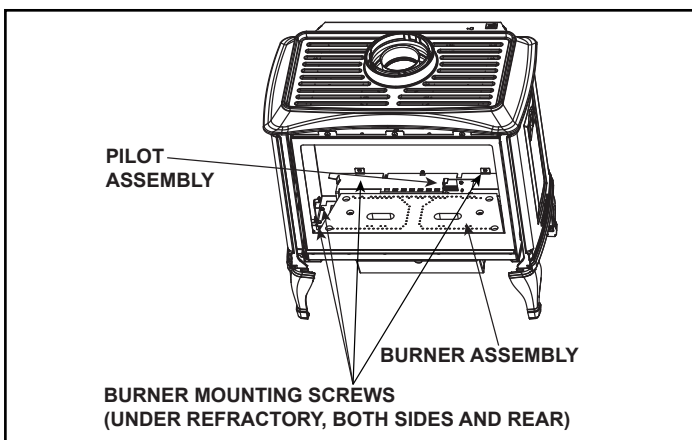

Figure 6.12 Remove Burner
13. The pilot needs to be lifted slightly to accommodate the burner removal. Using 1/4 in. bit, remove the two screws that attach the pilot to the burner. Remove the pilot shield and lift the pilot slightly until it clears the pilot mounting tabs. See Figure 6.12.
14. Using a 1/4 in. bit, remove the two burner mounting screws from each side of the burner. Remove the two screws that hold the burner to the rear firebox wall. See Figure 6.12. Remove burner from appliance.